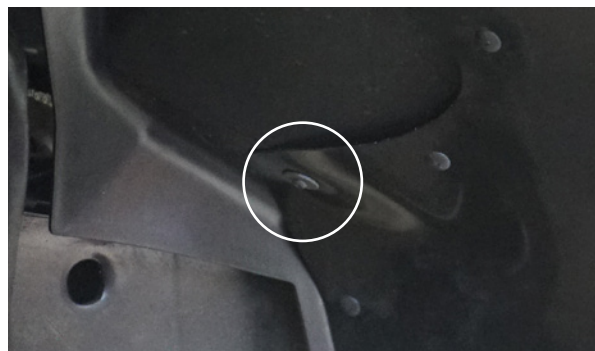

Figure 35 Driver-side shown
- C. On the driver side liner there is a hole that will help align, along with the circular cutouts. Insert a button head bolt through the hole (fig. 35). It will thread into the nutsert previously installed.